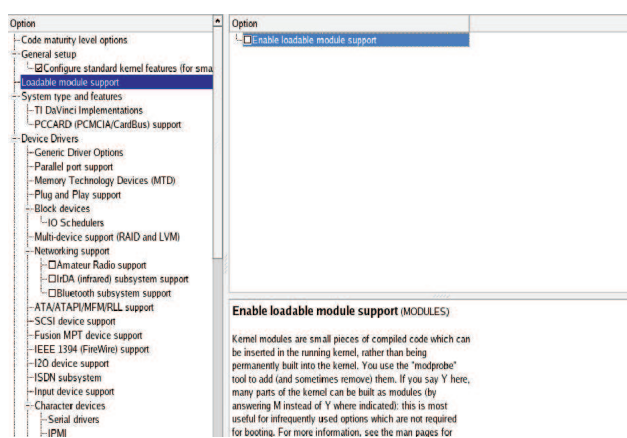

Figure 1. Loadable Module Support
3. Under *Loadable module support*, uncheck the *Enable loadable module support* to disable the module loading feature. See Figure 1.